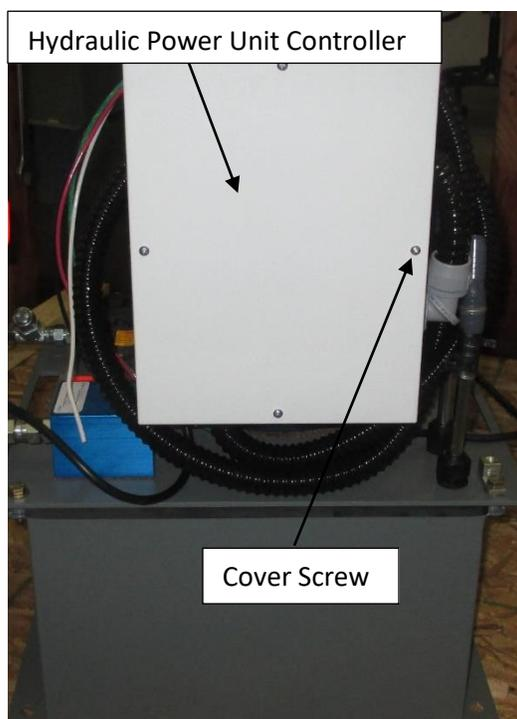
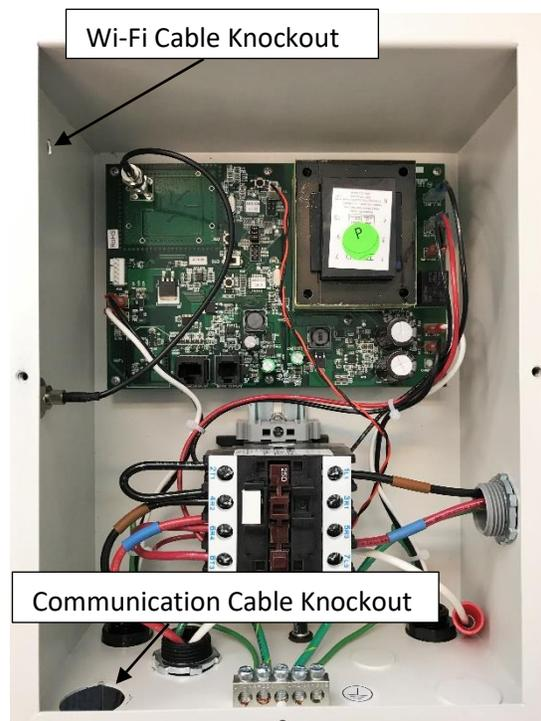
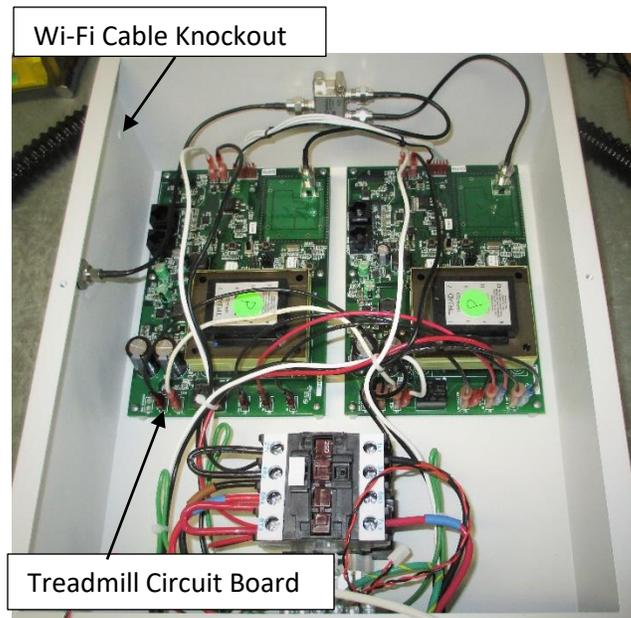

Fig 1
Fig 2
Fig 3
1. Locate the Hydraulic Power Unit Controller (Fig. 1). Remove the front cover by unthreading the (4) screws around the perimeter of the enclosure. On the left side of the controller's enclosure, punch out the small knockout using a hammer and screwdriver (Fig. 2). If a swim current and treadmill have been purchased with two separate hydraulic power units, the Wi-Fi card **MUST** be installed inside the treadmill controller. A board to board communication cable will then be installed between the two separate controllers. Punch out the communication cable knockouts on both the swim current and treadmill controllers (Fig. 2). If a swim current and treadmill have been purchased with a tandem hydraulic power unit, the Wi-Fi card will be installed on the treadmill circuit board (Fig. 3).